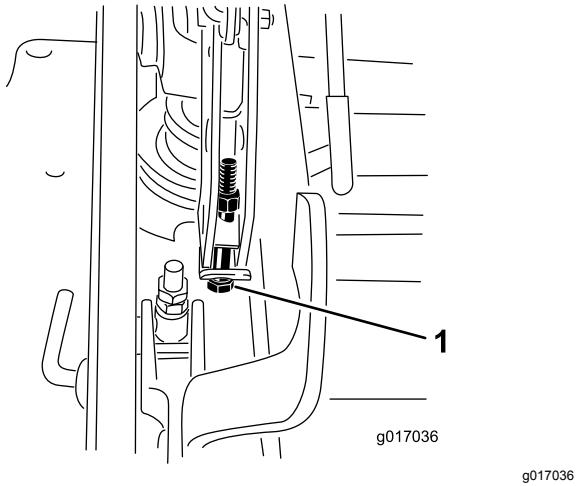

Figure 102
- If the deck is too low, tighten the single-point adjustment bolt by rotating it clockwise. If the deck is too high, loosen the single point adjustment bolt by rotating it counterclockwise (Figure 102).
- Tighten the 2 bolts at the bottom of the height-of-cut plate (Figure 102).